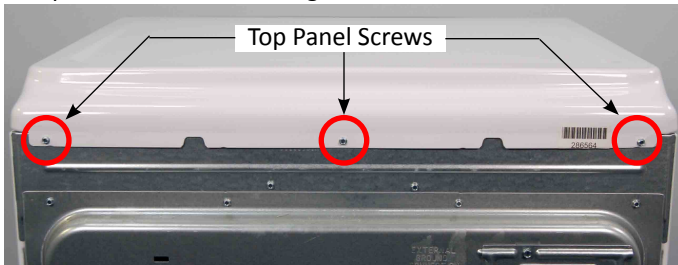

Figure 1
2. Remove the three (3) 1/4" hex-head screws from the top panel as illustrated in Figure 1.